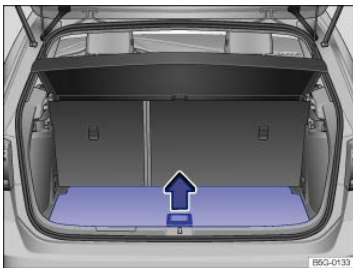
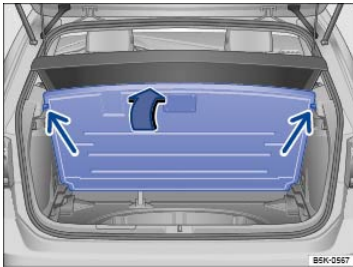

Fig. 105 In the luggage compartment: Opening the variable luggage compartment floor.
Fig. 106 In the luggage compartment: Variable luggage compartment floor folded up.
- To *open* the luggage compartment floor, lift the recessed handle ⇒ *Fig. 105* and guide the floor upward until it is held in position by the stops on either side of the luggage compartment ⇒ *Fig. 106* (arrows).
- Grasp the recessed handle ⇒ *Fig. 105*, lift the luggage compartment floor, and pull it rearward out of the guides on the sides of the luggage compartment.